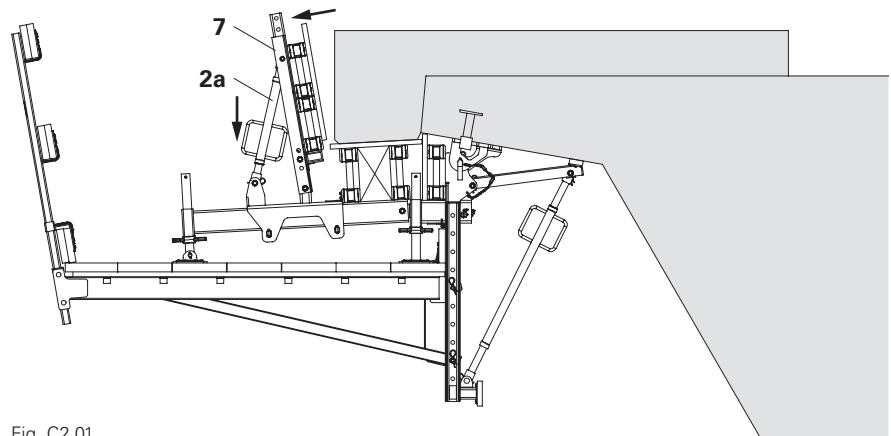

Fig. C2.01
1. Turn back Formwork Post 70 (7) with Kicker AV 82 (2a) until side plate comes off the cantilevered parapet.
2. Remove the side formwork. (Fig. C2.01)